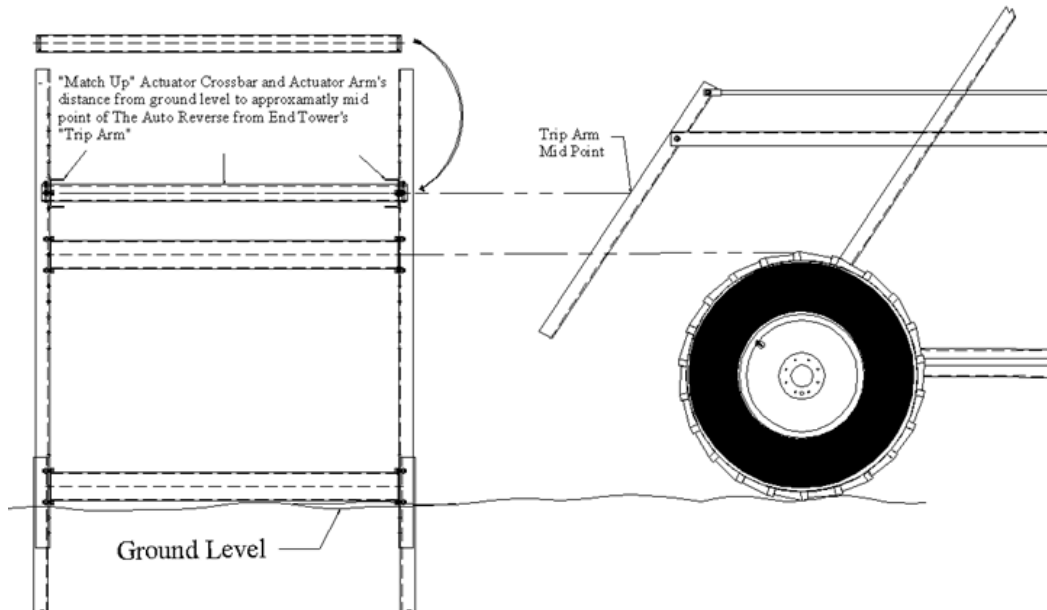

Fig. 6
6. Attach both actuator arms (A) to the inside, of the legs (E), at the “required” distance, from ground level. (Fig. 6)
●**Note:** To determine the “required” distance needed, measure for ground level, to a point that is approximately center of the trip arm, on the auto reverse from the end tower. (Fig. 6)
7. Slide the actuator crossbar (B) through the actuator arm's large holes Centering it so that both end protrude through the two actuator arms (A) (Fig.6)